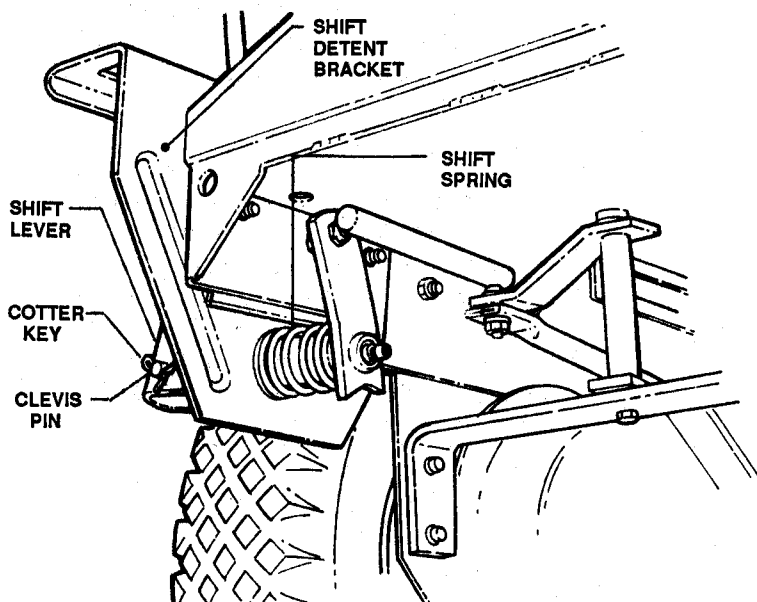

FIGURE 4.13
- Remove the cotter key and pin from the shaft handle. See Figure 4.13.